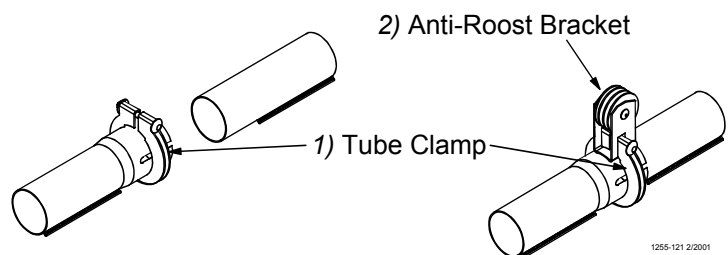

Figure 28. Tube Clamp and Tube Clamp with Anti-Roost Bracket
4. Place a Tube Clamp Assembly or Clamp/Anti-Roost Bracket at each joint. **Figure 28.** shows the standard Clamp and Clamp/Anti-Roost Bracket. Systems using 9' or 10' tubes require a Clamp/Anti-Roost Bracket at every **fifth** joint. Systems using 12' tubes require a Clamp/Anti-Roost Bracket at every **fourth** joint. All other joints in the system use the standard Tube Clamp Assembly.